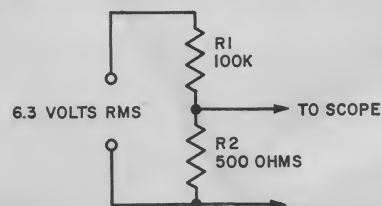

Fig. 2-9. Checking oscilloscope deflection sensitivity.
1. **OSCILLOSCOPE.** The vertical sensitivity of an oscilloscope can be checked very simply. A 6.3-v a-c signal output (this can be from the voltage calibrator or an ordinary filament transformer) is applied across a voltage divider (Fig. 2-9) made up of two 5 percent resistors, R1 and R2, 100 K and 500 ohms, respectively. The voltage across R2 is then fed directly to the vertical input of the scope, which is set for maximum vertical gain. The vertical deflection of the trace is measured in inches with a ruler. The vertical deflection sensitivity (peak-to-peak) may then be calculated by dividing 90 by the measured number of inches. The rating is in millivolts/inch. The reason 90 is used is that the divider ratio 500/100,500, or approximately 1/200 times 18v, equals 90 mv. This is the voltage applied to the vertical input of the scope.